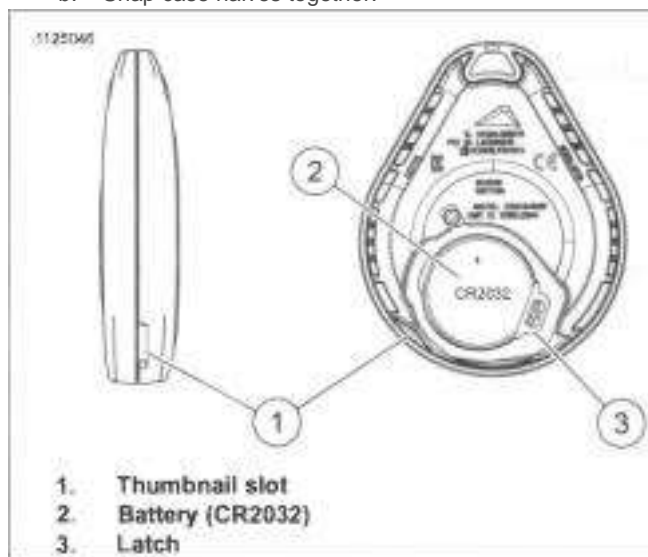

Figure 7-125. Replace Fob Battery
- a. See Figure 7-125. Place a thin blade in the thumbnail slot (1).
- a. Push the latch (3) away from the battery.